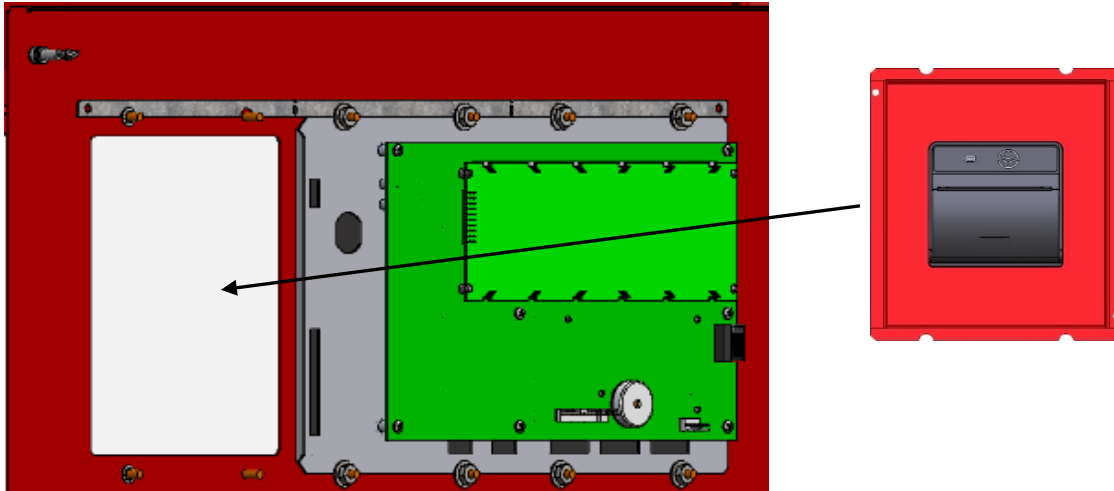

Figure 58 - NX10-EM-PRN Printer Module Installation
2. Remove the four (4) hex steel nuts, four (4) lock washers and four (4) regular washers (Figure 58).
1. Remove the preinstalled blank single aperture plate on the preconfigured command centre's inner door or remove the four (4) hex steel nuts, lock washers and regular washers on the modular command centres single aperture location.
3. Install the regular washers, lock washers and hex steel nuts (Figure 58).